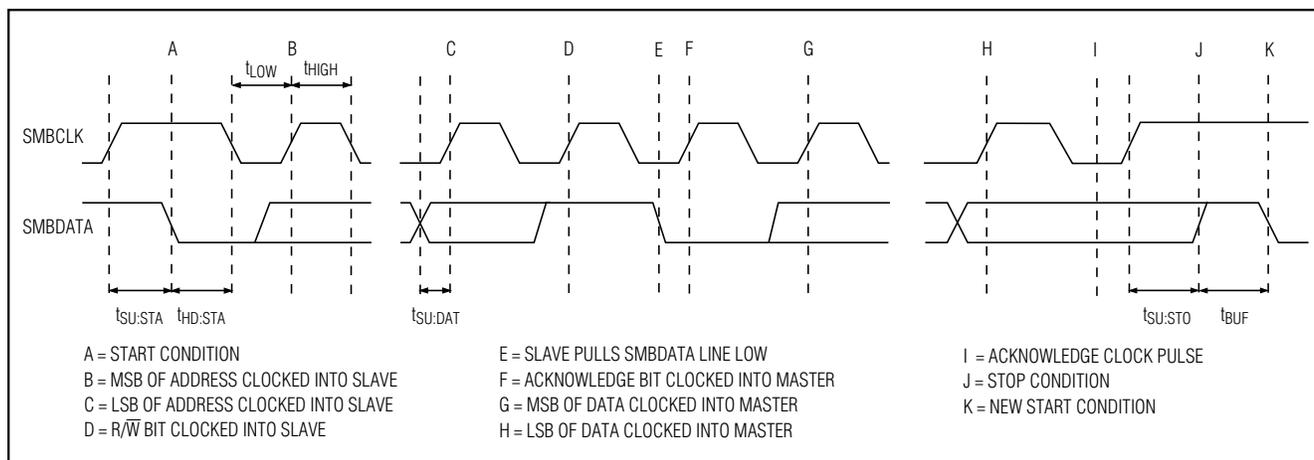

Figure 5. SMBus Read Timing Diagram
- Connect guard traces to GND on either side of the DXP–DXN traces (Figure 5). With guard traces in place, routing near high-voltage traces is no longer an issue.
- 7) Use wide traces. Narrow traces are more inductive and tend to pick up radiated noise. The 10mil widths and spacings recommended in Figure 5 are not absolutely necessary (as they offer only a minor improvement in leakage and noise), but try to use them where practical.